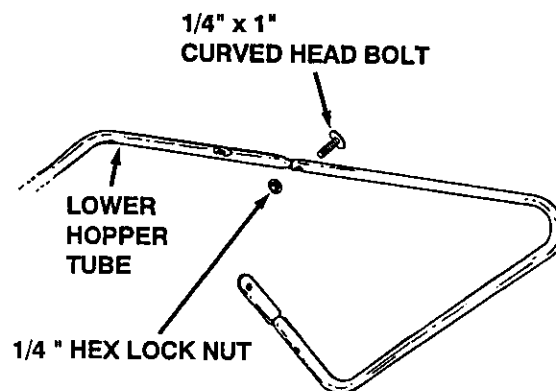

FIGURE 10
- Assemble the two lower hopper tubes together using a 1/4" x 1" curved head bolt and a 1/4" hex lock nut. **Tighten.** See figure 10.